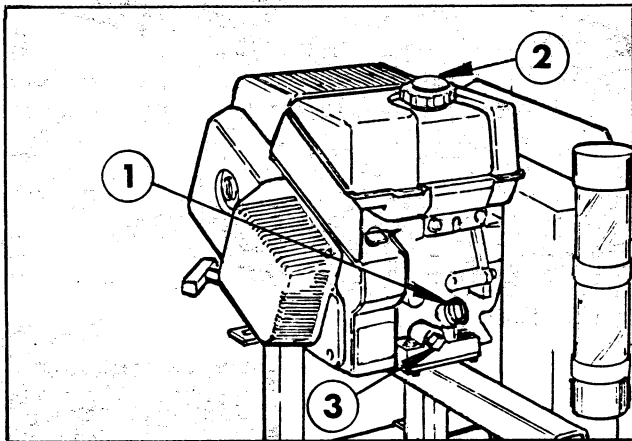

Figure 1
1. Clean area around fuel tank cap so foreign matter cannot enter tank when cap is removed. (Fig. 1)